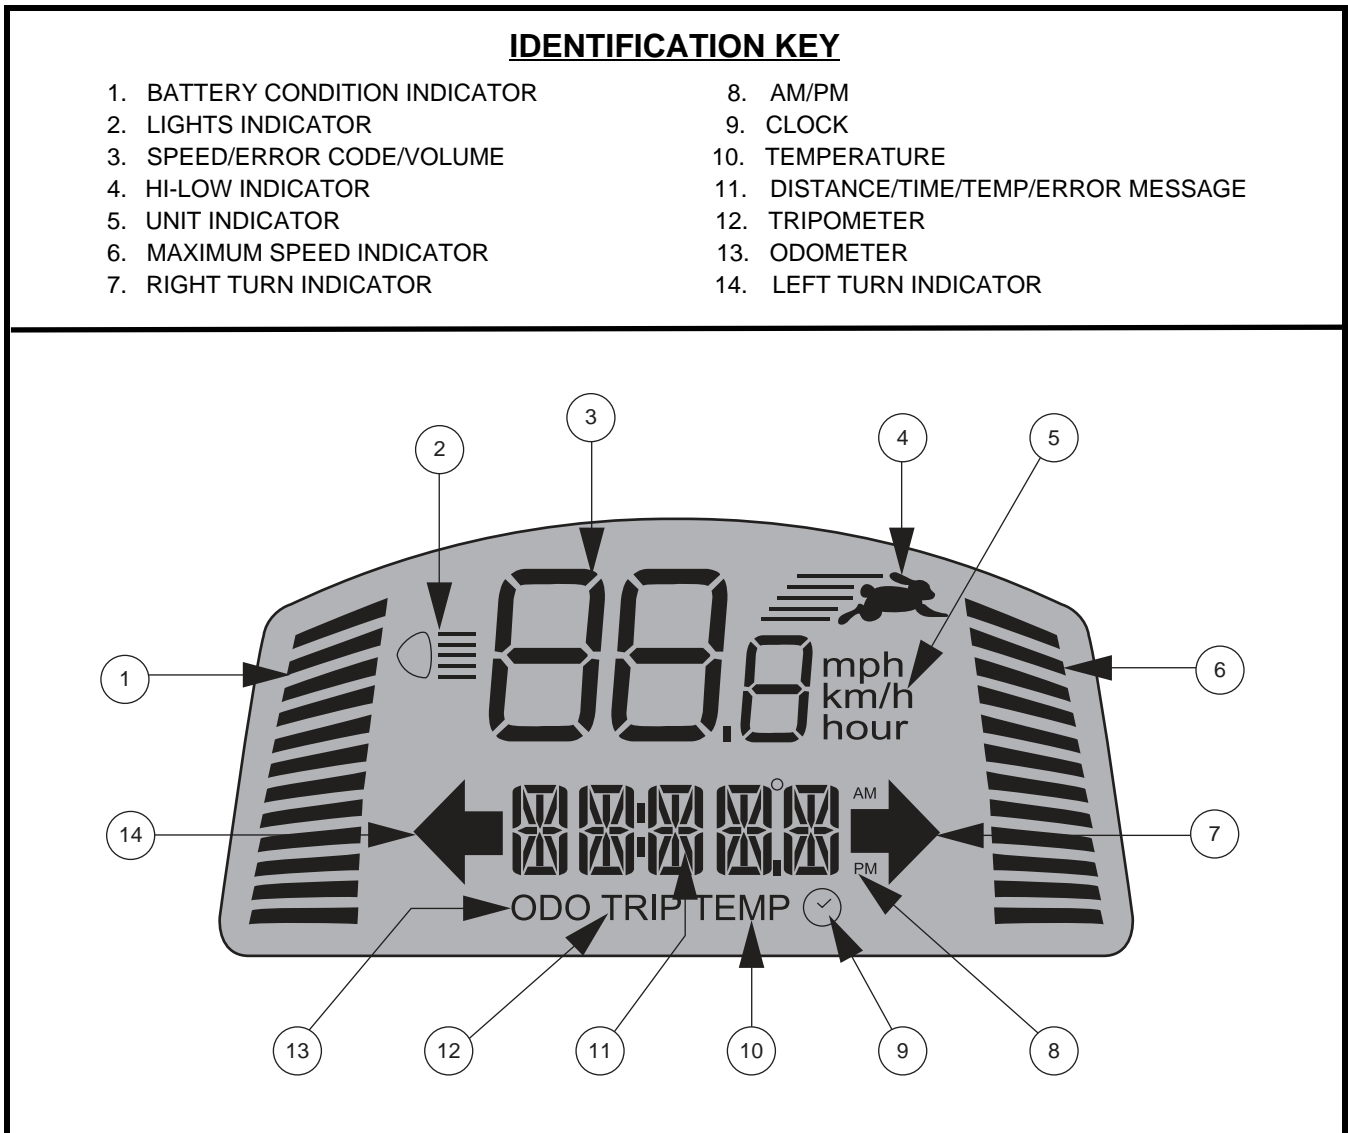

Figure 4. LCD Screen
- Press the **High-Low** button once to set the speed adjustment to high. The High-Low indicator will display on the LCD screen. **See figure 4.** Using this setting in conjunction with the speed adjustment buttons will allow the scooter to achieve speeds up to the maximum preprogrammed speed for the scooter.
These adjustment buttons enable you to pre-select and limit your scooter's speed. This is indicated by the maximum speed indicator on the LCD screen. **See figure 4.**
*NOTE: The more bars shown on the maximum speed indicator, the faster your pre-selected maximum speed will be. See figure 4.*
The LCD control panel offers easily intuited feedback information via the LCD screen. See figure 4. The LCD screen is also used during the set-up (activation) of the various control panel settings. See chart 1.